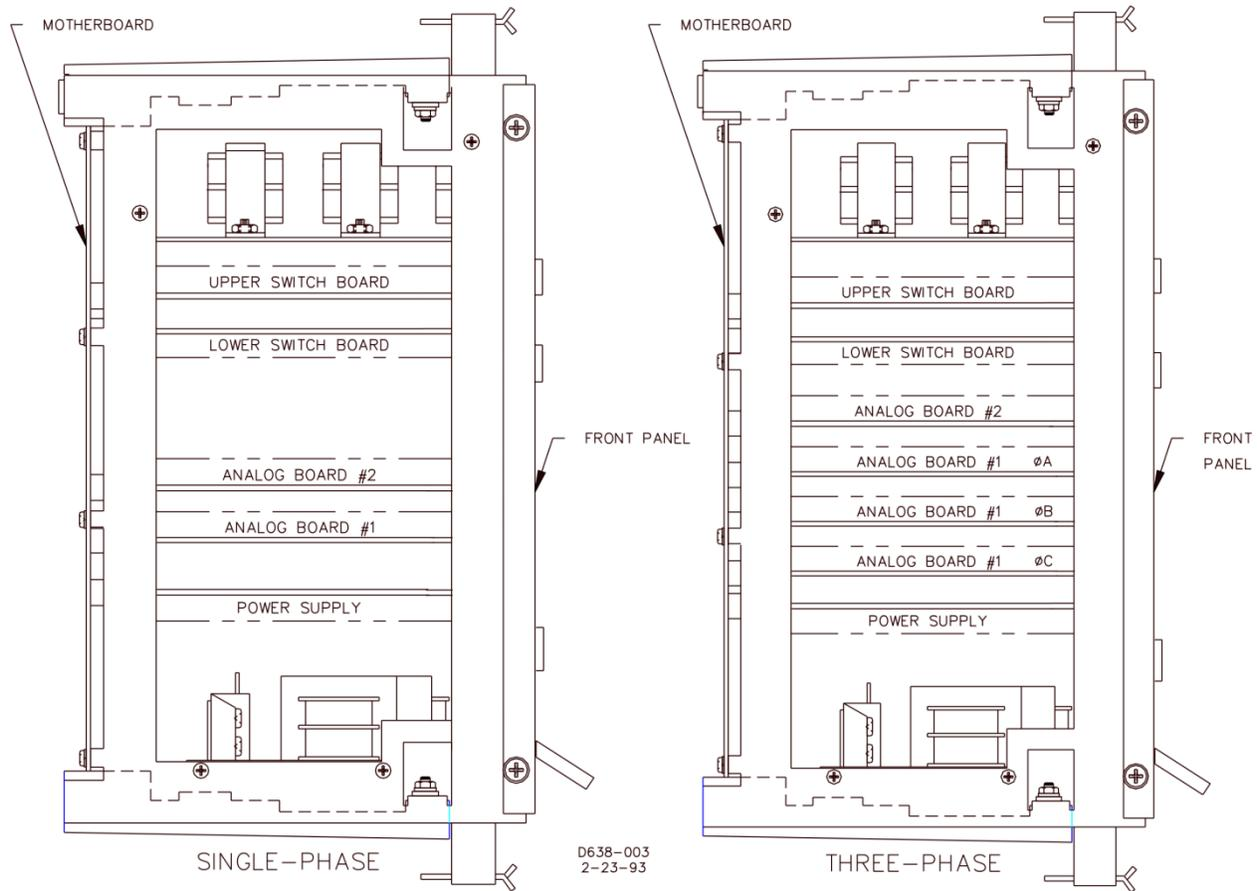

Figure 28. Side View of Cradle Assembly
The following procedures require the removal and handling of the internal printed circuit boards. Figure 28 shows the location of major components and assemblies. Because some of the components are vulnerable to electrostatic charge, the following precautions should be observed.
**Step 2.** Withdraw the cradle assembly (see Figure 28).
Disabling unused inputs requires disassembly of the relay and must be done when the relay has been taken out of service. Access to the input-disabling jumpers requires the removal of the Analog #1 Board, shown in Figure 28. To avoid personal injury or equipment damage, do **NOT** proceed unless thoroughly familiar with the instructions in sections *Relay Operating Precautions* and *Relay Disassembly: Precautions*.